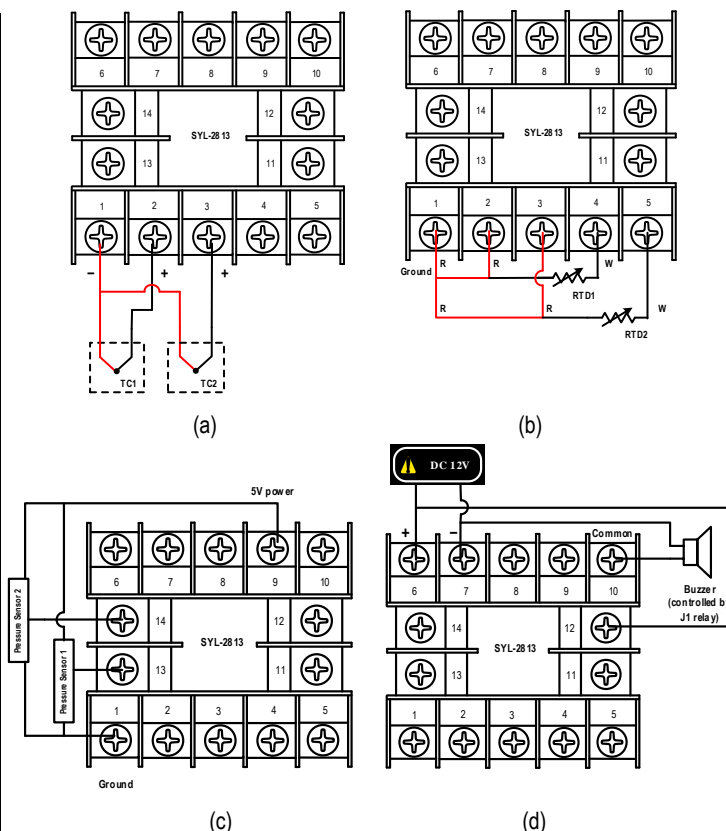

Figure 4. Wiring diagram for (a) thermocouples, (b) RTDs, (c) pressure sensors, and (d) relays.
3. Wiring of Thermocouples (TC). For Channel 1, connect the positive side of the TC to T2, the negative side to T1. For Channel 2, connect the positive side of the TC to T3, the negative side to T1. (See Figure 4(a).)
4. Wiring of Resistance Temperature Detectors (RTD). In Channel 1, for a three wire RTD, connect the two red wires to T1 and T2, connect white wire to T4; for a two wire RTD, connect the red wire to T2, and connect the white wire to T4, and short T1 and T2. In Channel 2, for a three wire RTD, connect the two red wires to T1 and T3, connect white wire to T5; for a two wire RTD, connect the red wire to T3, and connect the white wire to T5, and short T3 and T1. (See Figure 4(b).)
5. Wiring of Pressure Sensors. In Channel 1, connect the power source wire of the sensor to T9, the signal wire of the sensor to T13, and the ground wire of the sensor to T1. In Channel 2, connect the power source wire of the sensor to T9, the signal wire of the sensor to T14, and the ground wire of the sensor to T1. (See Figure 4(c).)
8. Wiring for relay output. J1 and J2 are two normally open relays. T10 is a common pole for both relays. Use T12 and T10 for J1 relay. Use T11 and T10 for J2 relay. (See Figure 4(d).)
To set or view Basic Parameters, press SET key once, the upper window will display "pass" and the lower window will display "0000". Change the number to "0089" in the lower window and press SET again to enter the Parameter Setting Mode. Two parameters from the parameter list will be displayed. The upper window will flash the first parameter, the lower window will steadily display the next parameter on the list (see table 3). Use Up or Down key to scroll to the desired parameter (flashing in the upper window) and press Set to view the value. For numerical values, use Shift key to go to any digit that needs to be changed and use Up or Down key to change the value. For letter values, use Up or Down key to select from available values. Then press SET to save and exit to the parameter list. To exit this mode, use Up or Down key to scroll to "End" (flashing in the upper display window) and press SET. See Figure 4 for a schematic diagram of how to change Basic Parameters.
**D.2.b) The procedure for setting Alarm Parameters is similar to Basic Parameters showed in Figure 4 except the access code is 0001.**
**D.3.b) The procedure of setting Peak Value Parameters is similar to the Basic Parameters showed in Figure 4 except the access code is 0036.**